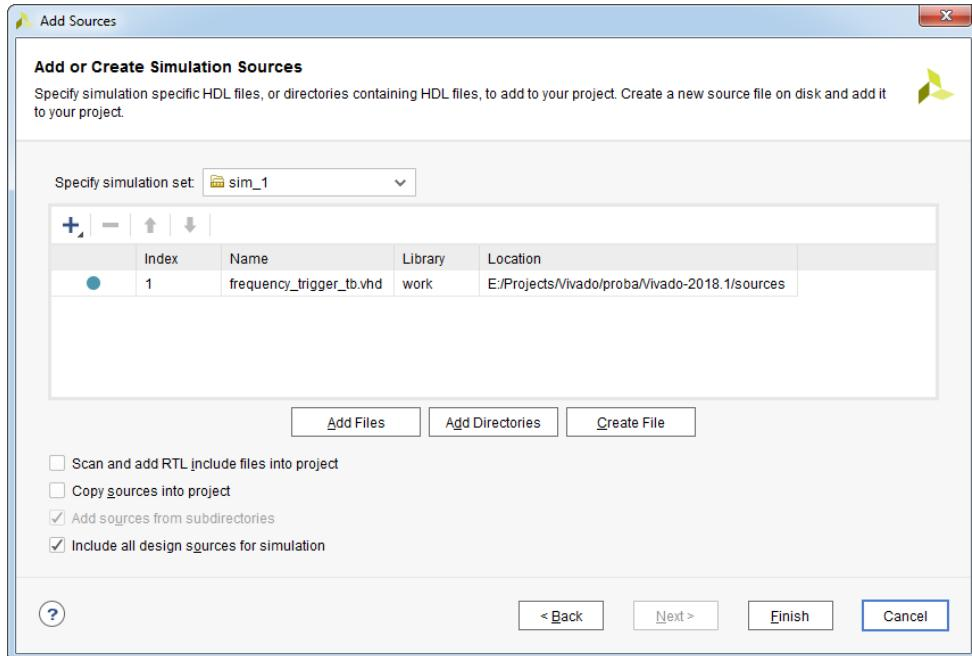

Figure 2.32: Add or Create Simulation Sources dialog box - with added file
13. Click **OK** and the *frequency_trigger_tb.vhd* source file should appear in the **Add or Create Simulation Sources** dialog box, as it is shown on the Figure 2.32.